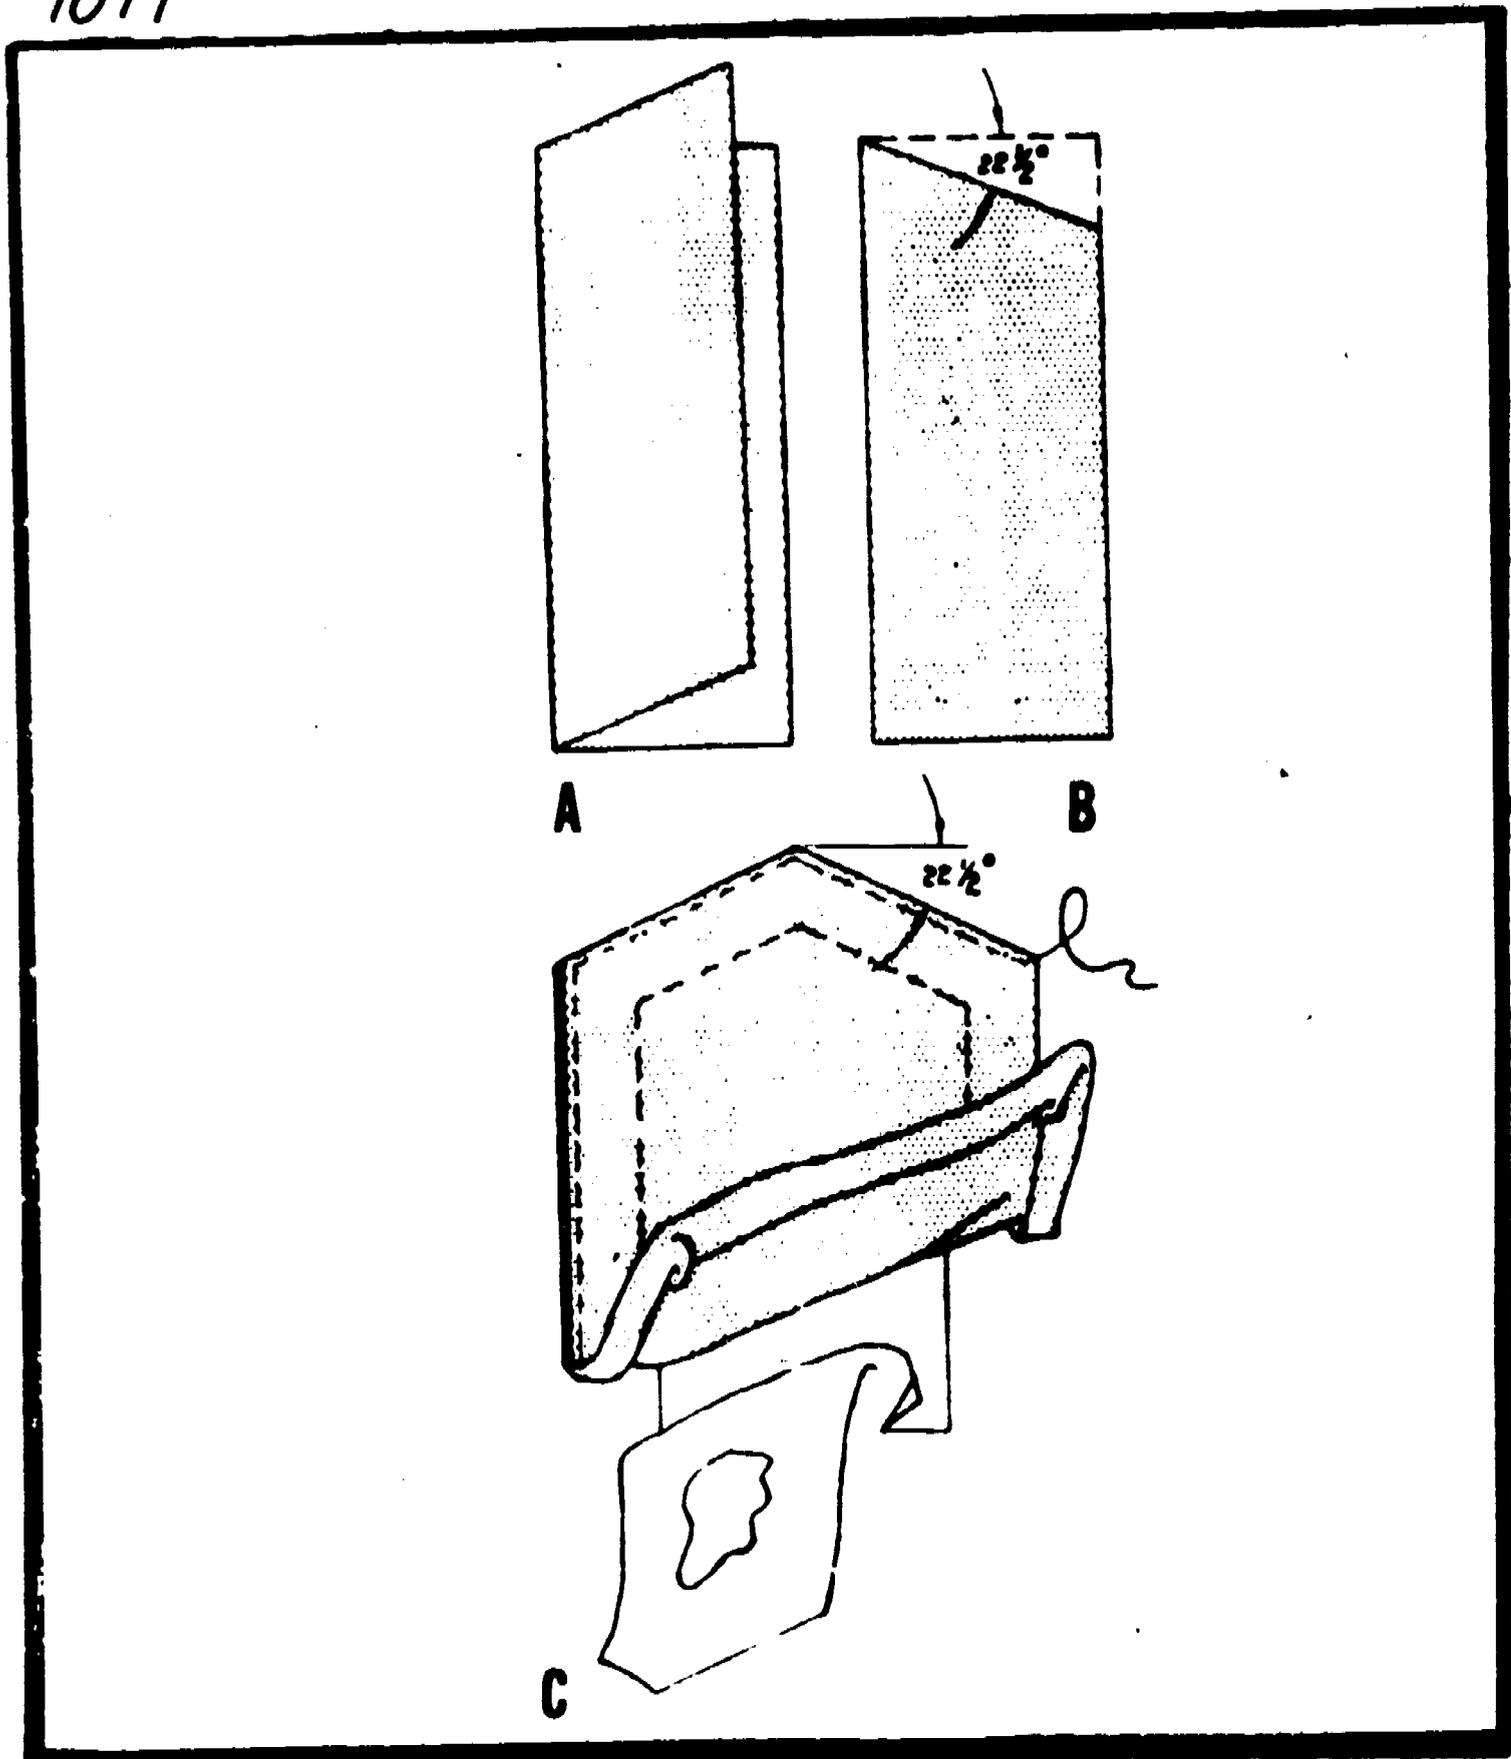

Figure 8-4. Construction of watershed patch.
c. Patching. Machine stitch all patches (fig. 8-3). Use the watershed patch for general repair except at the ridge of the tent where a rectangular type is required. Limit the number of patches to six patches on each side and four patches on each end. In addition, limit the total area of patches on each side panel and each end panel to not more than 25 percent of the area of the panel. Remove and replace panels or panel sections when patching would weaken the panel or exceed limitations. See figures 8-4 through 8-11 for details of patch construction. Procedures for patching are as follows:
(1) Cut patches from matching salvaged material to closely match the item being repaired, or cut them from new material.
(2) Cut each patch large enough to overlap the damaged area $2 \frac{3}{4}$ inches on all sides.
(3) In making the watershed patch, fold-in the patch to make a roof-type top edge, cutting from open edges to the folded center at an angle of about 22.5° . Center the patch over the damaged area, and turn under the raw edge three-quarters of an inch. Stitch the patch into place with a row of stitching not farther than one-eighth of an inch from each edge. Turn the tent over and trim the damaged area, allowing enough material to turn under one-half inch. Sew one-eighth inch from the edge of the turned under material.
(4) For repairing an area where a grommet has been loose, use a grommet patch. Cut the patch large enough to allow folding the material over both sides of the damaged area. Center the patch with the raw edge (folded part) facing in. Stitch the patch in place with a row of stitching one-eighth inch from the edge. Position and install a new grommet centered in the patch.
(5) Do not remove previously installed cement patches if they are serviceable; however, sew around the outer edge with two rows of stitching, the first row one-eighth inch from the edge and the second row one-quarter inch from the first row.